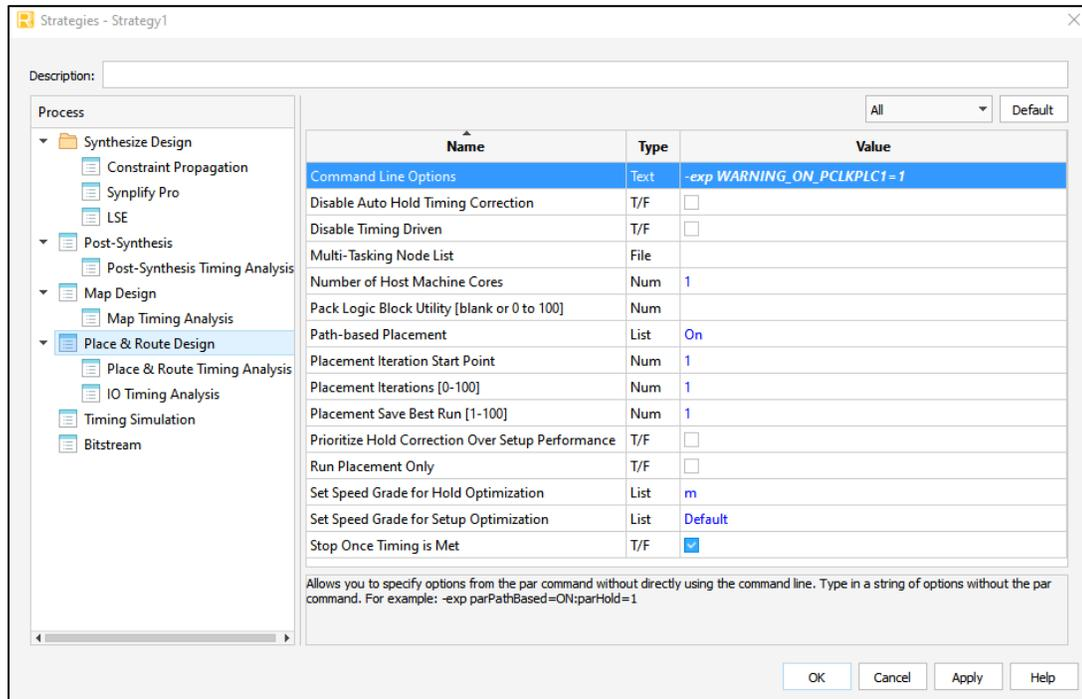

Figure B.3. Setting Environment Variables
- d. In the **Strategies** dialog box, set the environment variable for **Place & Route Design**. Enter “-exp WARNING_ON_PCLKPLC1=1” in the Value of **Command Line Options** if TCK connects to normal I/O (Figure B.3).